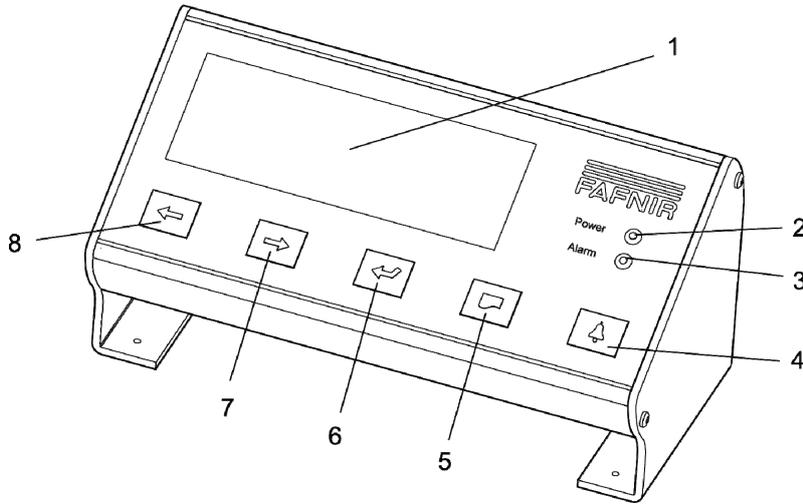

Figure 1: VISY-View front
The front operator side is screwed at an angle with the feet so that user-friendly operation is ensured. The operator interface comprises the display screen (1) and five operator buttons (4–8). For the indication of operating statuses, the VISY-View unit is equipped with two LEDs (2–3) (see Figure 1)
To page through the various menu items and call up the desired tank data, five operator buttons (4–8) are available (see Figure 1):